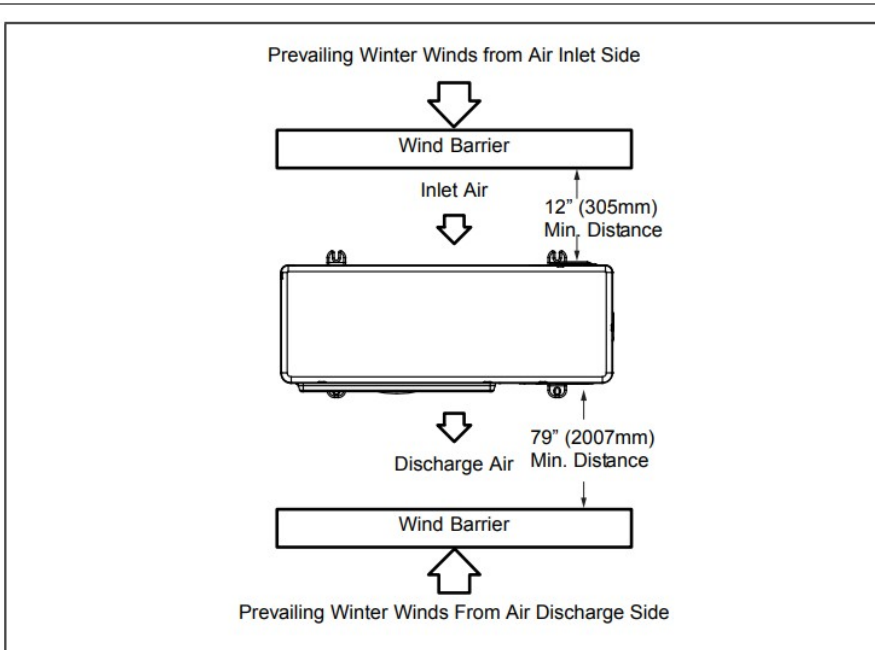

Figure 27. Wind Barrier
- When prevailing winds are from the air inlet side, then position the wind barrier a minimum of 12 inches (305 mm) from the unit as illustrated in “Figure 27. Wind Barrier”.
- When prevailing wind is into the discharge side, then position the wind barrier a minimum 79 inches (2007 mm) from the front of the unit as illustrated in “Figure 27. Wind Barrier”.